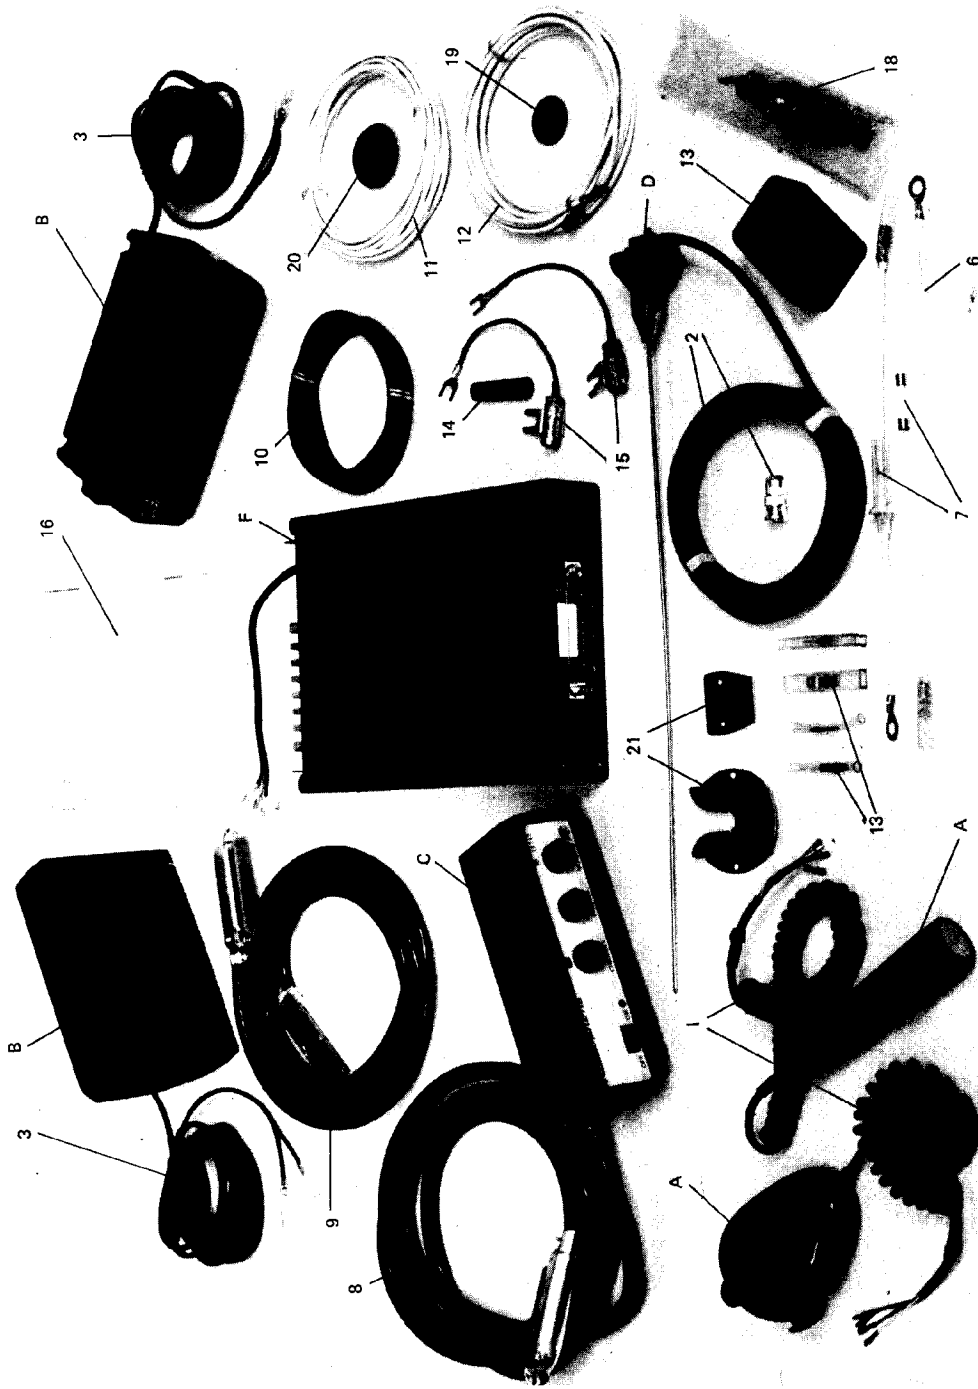

Figure S2.3 Remote Control Installation Kit
2.2.3 Remote Control - Refer to Figure S2.3